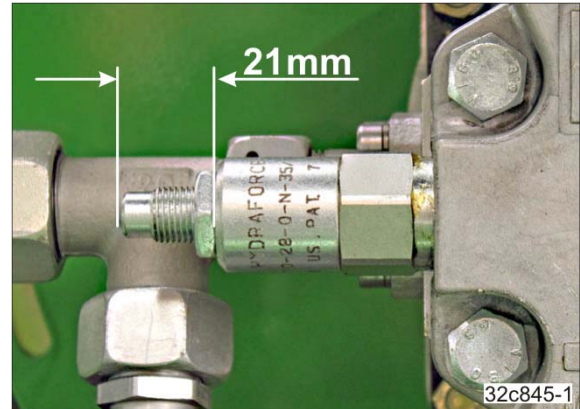

Fig. 162
2. Adjust the pressure relief valve to the factory-set dimension "21 mm" (Fig. 162).